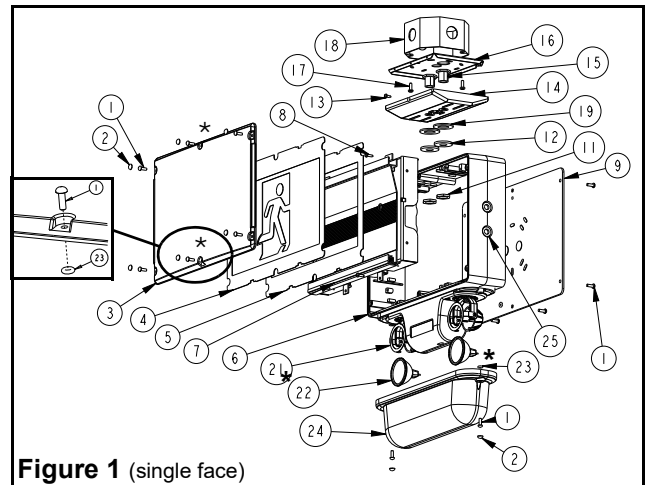
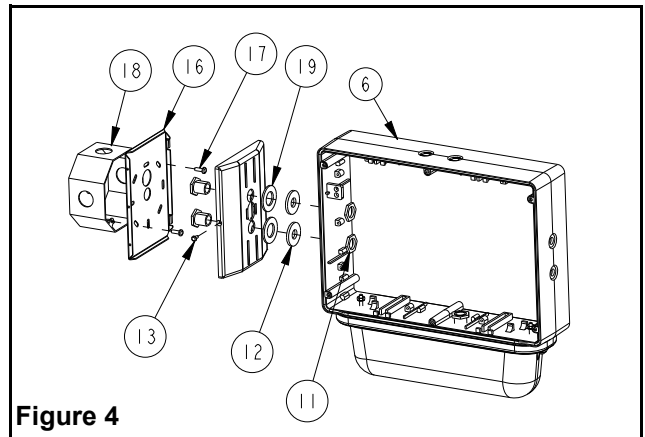

Figure 1 (single face)
Figure 4
- c. Remove proper knockouts in canopy backplate for desired mounting position. For **Nexus** wired option, install the liquidtight™ fitting, provided with the unit. For Ceiling mount, use the knockout located on top of the unit. For Side mount, use the knockout located on side of the unit (see fig. 4).
- e. Make sure the securement screw is accessible (see figures 1 & 2 part # 13). Use existing screws in junction box to secure canopy backplate to the junction box.
- h. Determine which holes in the exit frame will be used for mounting (see figures 1,2 & 4). Support frame by two blocks of wood, maximum one inch apart. Strike knockouts with a hammer and screwdriver. Clear holes of burrs to allow proper assembly of nipple/wire assembly. Note: end mount installation is weatherproof but not certified Nema 4X (see figure 4).
- i. Secure canopy to the frame by threading the provided nipple/wire assembly through the canopy and frame. Make sure the gasket washers are between the canopy and frame, and that the locknuts(11) are inside the exit sign (see figure 4).